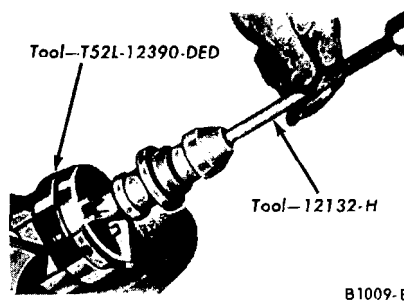

FIG. 6—Bushing Removal
16. Compress and insert the slotted end of the bushing removal tool in the distributor body. Allow it to expand and butt against the bushing. Drive out the bushing (Fig. 6).